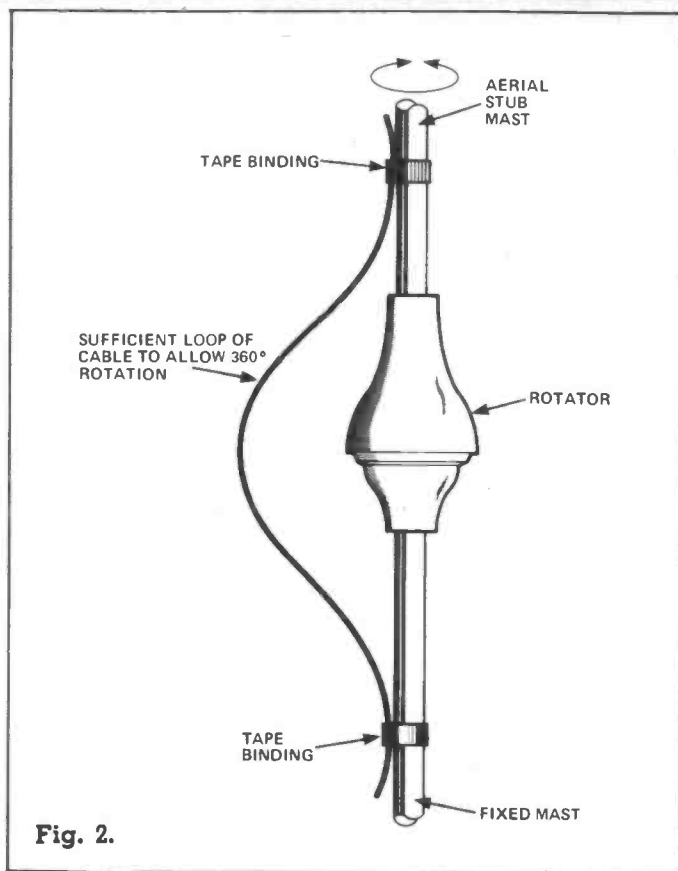

Fig. 2.
8. When using a rotator, make sure you leave a loop of cable slack between the rotating section of mast and the fixed section sufficient to allow 360° of rotation. See Fig 2.